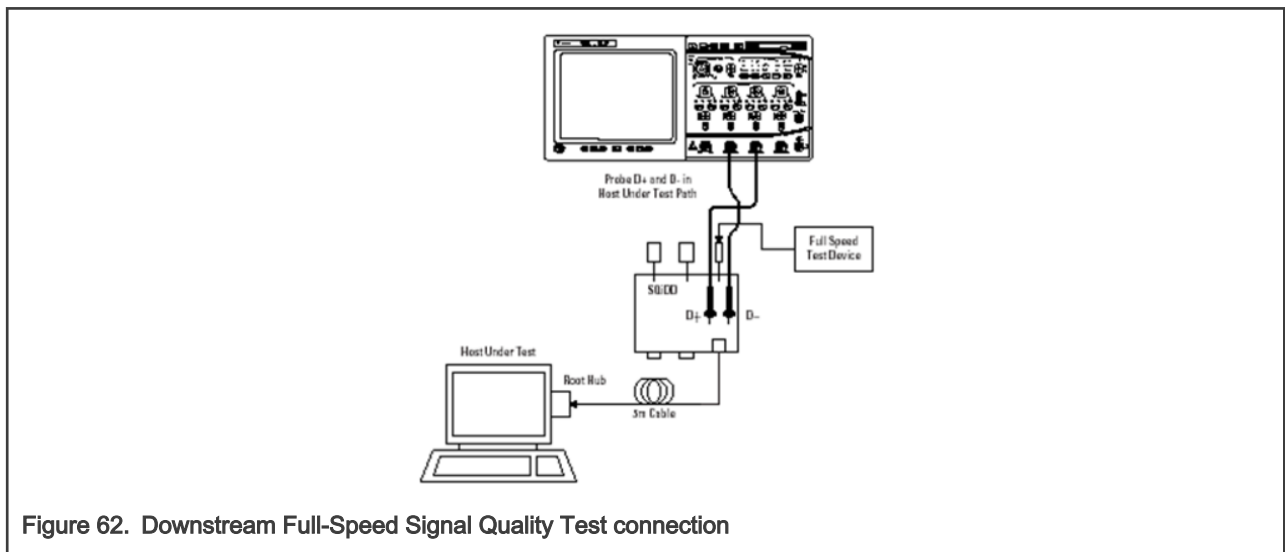

Figure 62. Downstream Full-Speed Signal Quality Test connection
2. Connect the Embedded Host under test, full speed device, and the SQiDD, as shown in Figure 62. Set the switch on SQiDD board to ON. The test is for the embedded host, so use the embedded host board to replace the PC in Figure 62.